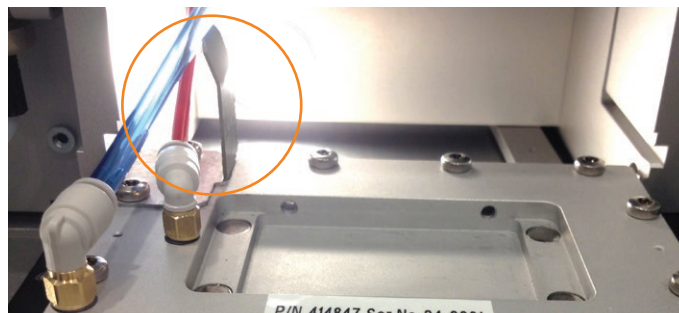

Figure 48. Ensure that the gas tubes are on the left side of the highlighted bracket.
12. Connect the gas tubes to the pressure head of the desired format. Ensure that the tubes are properly fastened by pulling on them. Ensure that the tubes are on the left side of the bracket in Figure 48.